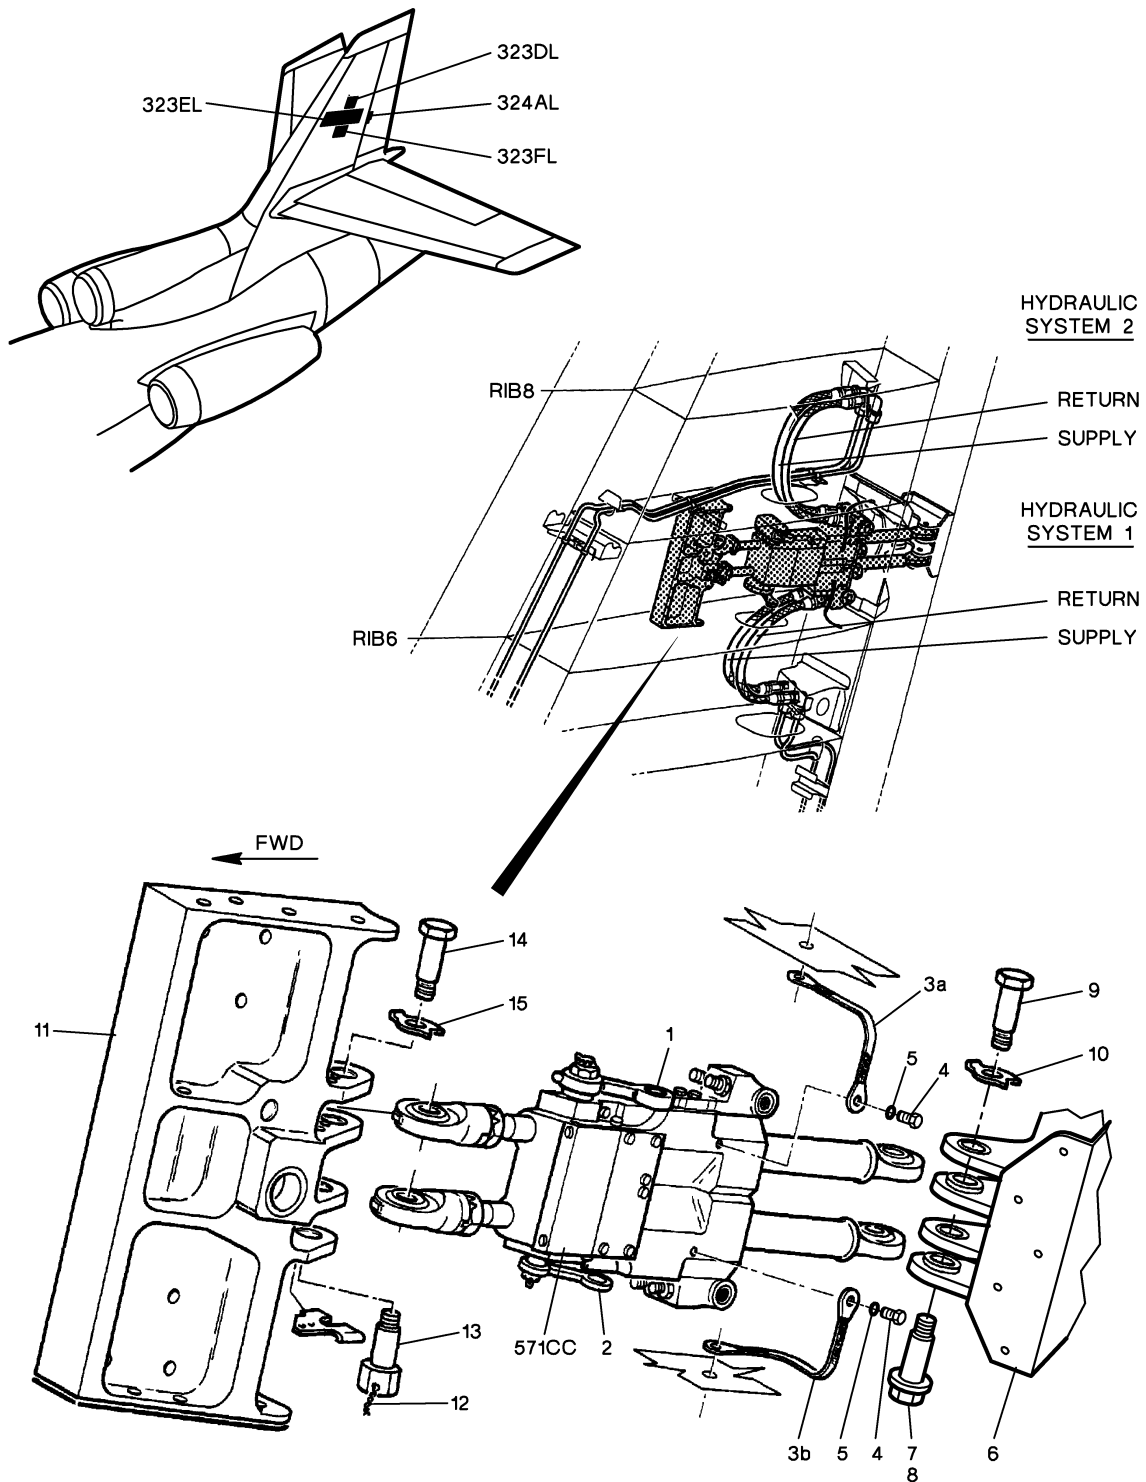

Figure 1: Removal/Installation of Rudder Servo-actuator
- F. Connection of bonding braids (3a) and (3b) (Refer to TASK 20-20-00-900-801) (**fig. 1**)
- (1) Position the bonding braid lug on its servo-actuator terminal stud.
- (2) Install screw (4) with washer (5).